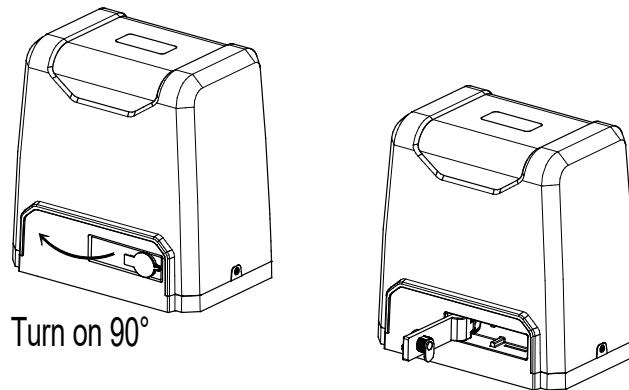

Figure 4
C) Please unlock the main engine before installation, the unlock method is: remove the rubber key cover, insert the key, and open the manual release bar till it rotates by 90° as shown in Figure 4. Then turn the output gear and the gear can be rotated easily